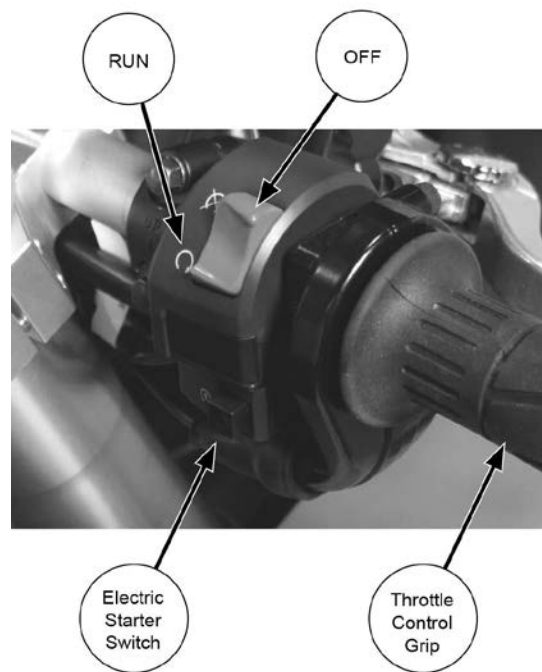

Figure 7. Right Handlebar switch.
See Figure 7. The electric starter switch is located on the right hand controls. Pushing in the electric starter switch engages the electric starter and starts the engine if ignition power is
See Figure 7. The engine OFF/RUN switch turns the ignition power on or off. The engine OFF/RUN switch is located on the right hand controls. Push the top portion of the engine OFF/RUN switch to turn off ignition power and shut the engine off. Push the bottom portion of the engine OFF/RUN switch to turn on ignition power.
1. See Figure 7. The throttle control grip is located on the right handlebar and is operated with the right hand. Turn throttle control grip clockwise (toward the front of the vehicle) to close the throttle and decelerate.